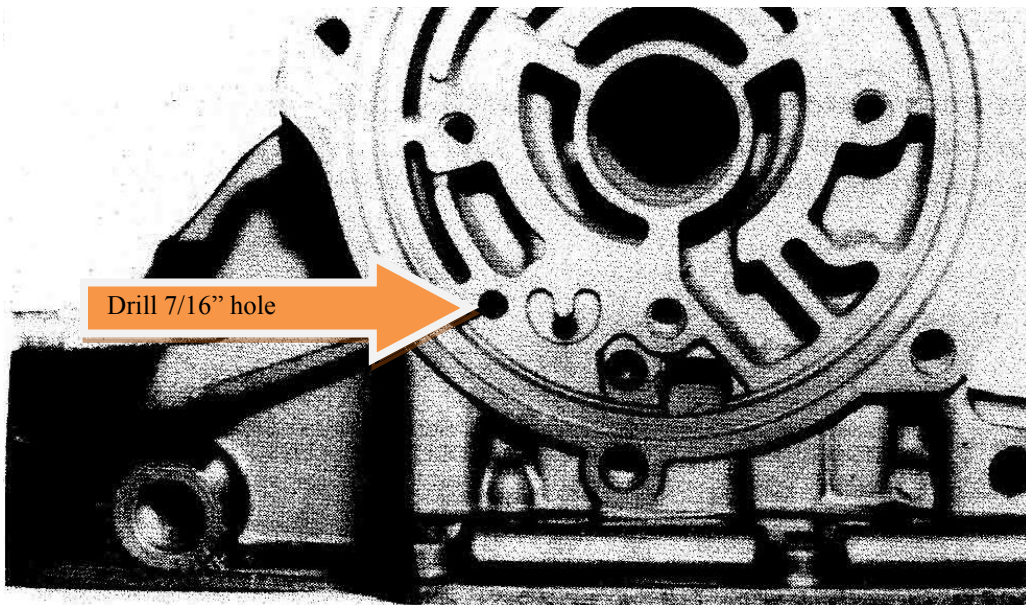

Fig. 1
Step 2. *NOTICE* With the transmission disassembled and reverse piston removed, locate the reverse apply /release fluid passage in the case. You will either have an early (62-66 has rear pump) or late (67-on has no rear pump) case. Early models will have a hole at the 1 o'clock position, looking from reverse piston side. This model case will require drilling a guidance hole from the back side of the case (see Fig. 1). Viewing from the back side of the case, locate hole at the 7 o'clock position that intersects with reverse apply / release passage (viewing from valve body side). Use a 1/4" drill bit from the back side of case all the way through to the reverse piston area (see Fig. 1).
Hughes Performance will no longer be supplying the shift detent arm with our HP6282 Powerglide Trans-Brake Kits. This must be removed from your existing valve body and transferred to the new unit. Locate the shift detent arm on your valve body, remove the circlip from the shaft and remove shift detent arm (Figure 1). Reinstall shift detent arm on new valve body and secure with circlip.